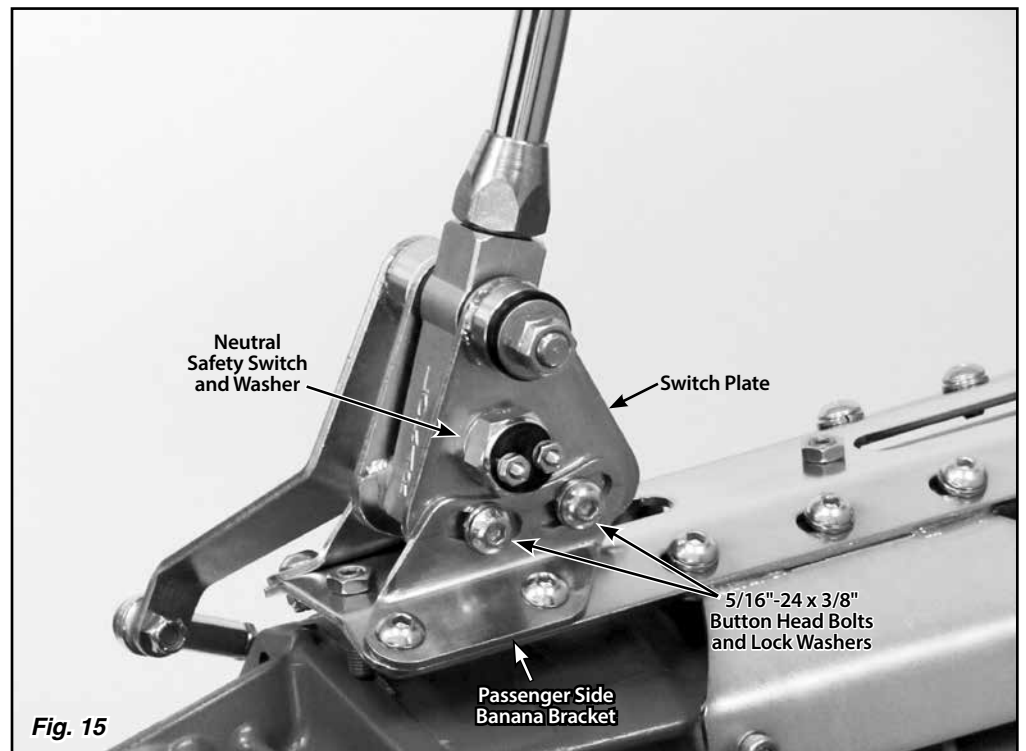

Fig. 15
Step 20: Remove the neutral safety switch and washer from the switch plate on the passenger side of the shifter assembly using a 7/8" wrench or socket. **Fig. 15**
Step 21: Loosen, but do not remove, the two 5/16"-24 x 3/8" button head bolts and lock washers that attach the switch plate to the passenger side banana bracket (the bolts are in curved, slotted holes). **Fig. 15**